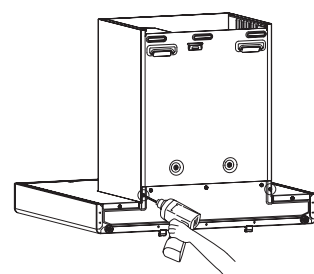

Fig.6
2. Remove the fan cover and decorative hood (only for EMG6018-C\EMG6018-CW): remove the 2 screws that fix the fan cover behind the main body with a screwdriver(see Fig.6), and then grab the fan cover and decorative hood with both hands to take them out upward(see Fig.7);